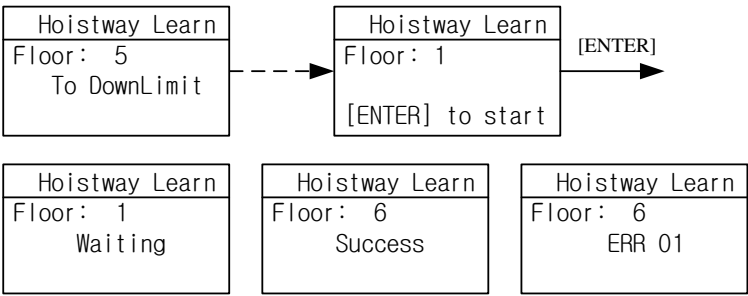

Figure 7.4 Hoistway Parameter Self-Learning Procedures
4. Enter elevator hoistway self-learning menu through digital operator, follow the learning procedures shown below in Figure 7.4